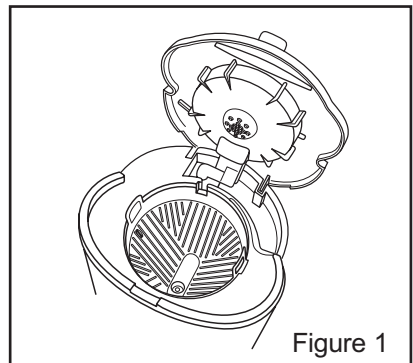

Figure 1
**Note:** The Removable Filter Basket must be placed into the coffeemaker with the two handles, located on the sides of the Filter Basket, aligning with the two notches on the inside of the unit (see Figure 1 on previous page). Press the Filter Basket down until it clicks into place.